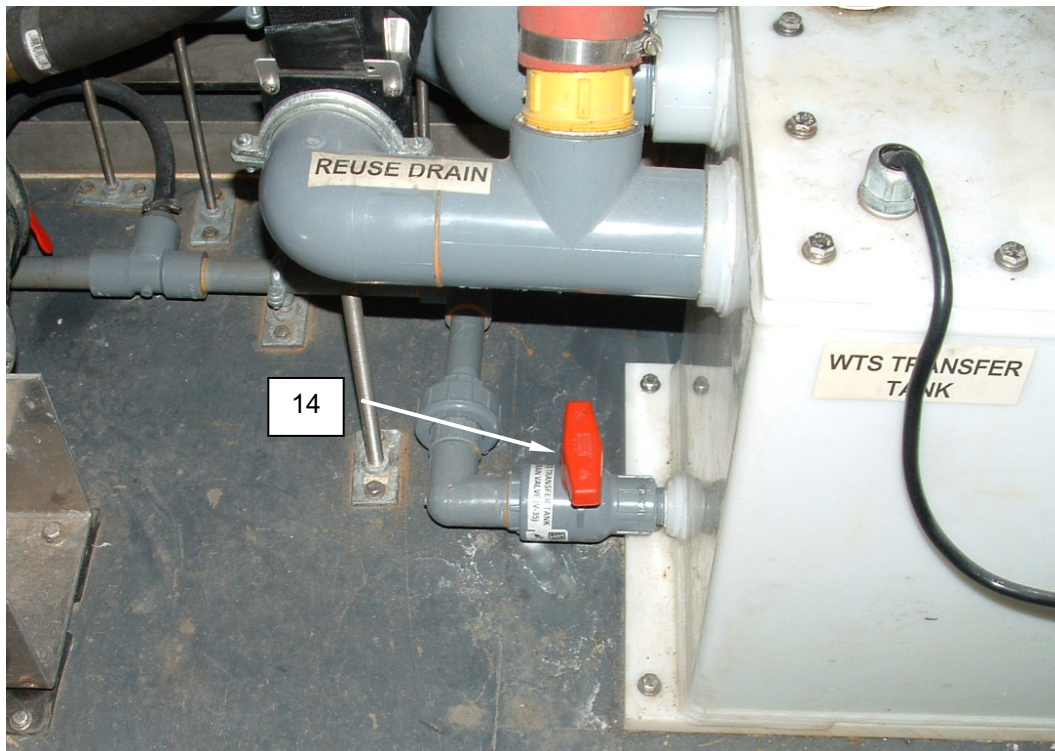

Figure 8. WTS Transfer Tank Drain Valve.
5. Close the WTS transfer tank drain valve V-35 (Figure 8, Item 14).